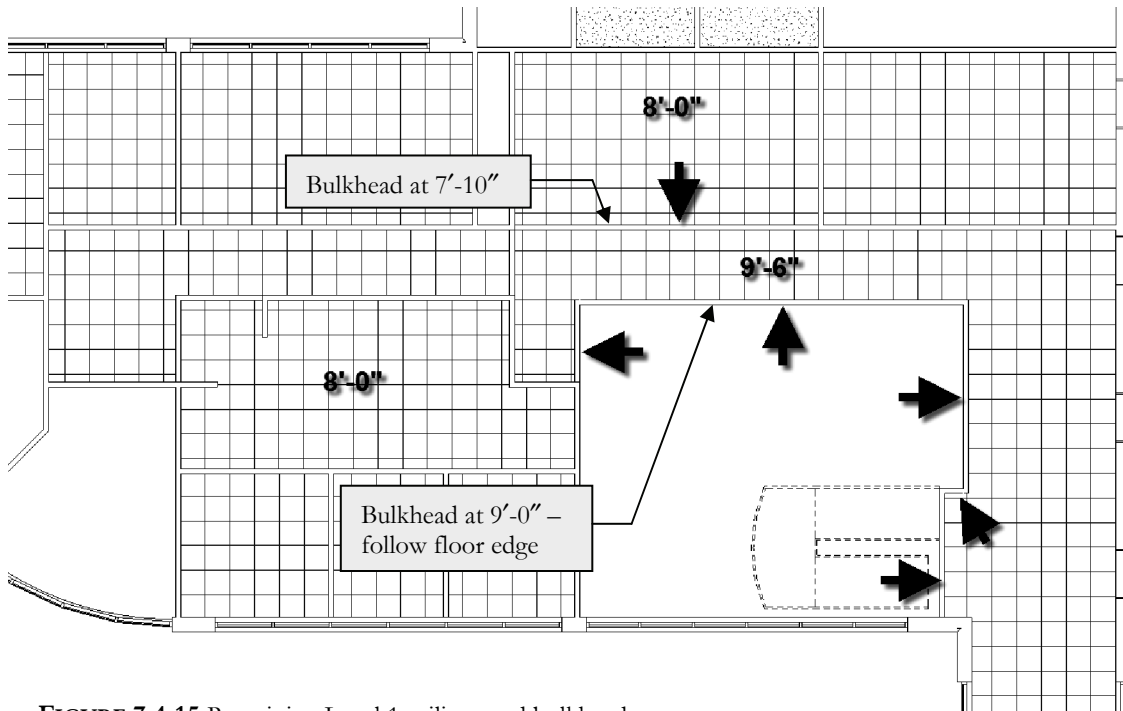

FIGURE 7-4.15 Remaining Level 1 ceilings and bulkheads
34. Place the remaining bulkheads and 2'x2' ACT ceilings per the image below; note the ceiling and bulkhead heights vary (Figure 7-4.15).